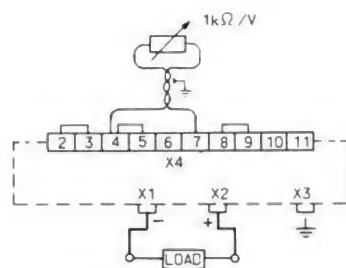

Fig. 8d. Remote voltage control with external resistor
- By connecting a resistor of 1 k Ω per volt output voltage as shown in Fig. 8d. The internal coarse and fine voltage controls R1 and R2 must be turned completely to the right. During operation no connections may be interrupted.
To prevent additional ripple voltage at the output terminals, the wires should be twisted and/or screened as shown in Figures 8d. and 8e.